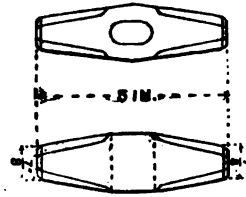

FIG. 2.—BALLAST HAMMER—Weight 3 1/2 lbs.
**Ballast Hammers** (Fig. 2) are made of iron with a small piece of steel welded on each end, 1 1-2 in. square at center tapering off to 7-8 in., octagonal face at each end. Length when finished 5 in.; and weight about 3 lbs. Oval hole 1 1-8 in.  $\times$  3-4 in.; about fifteen can be made in one day.